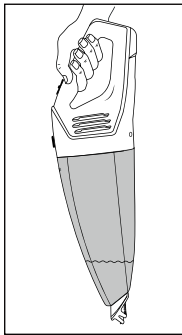

Fig. 2
- ▶ If you have vacuumed liquids, always carry the appliance with the wet suction nozzle **1** pointing downwards (see fig. 2):